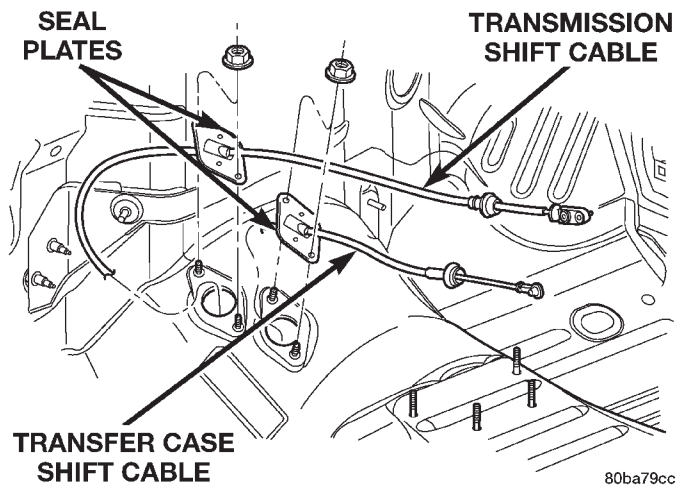

Fig. 9 Shift Cables at Floor Pan
- (8) Remove the nuts holding the shift cable seal plate to the floor pan (Fig. 9).
- (1) Route cable through hole in floor pan.
- (2) Install seal plate to studs in floor pan.
- (3) Install nuts to hold seal plate to floor pan (Fig. 9). Tighten nuts to 7 N·m (65 in. lbs.).